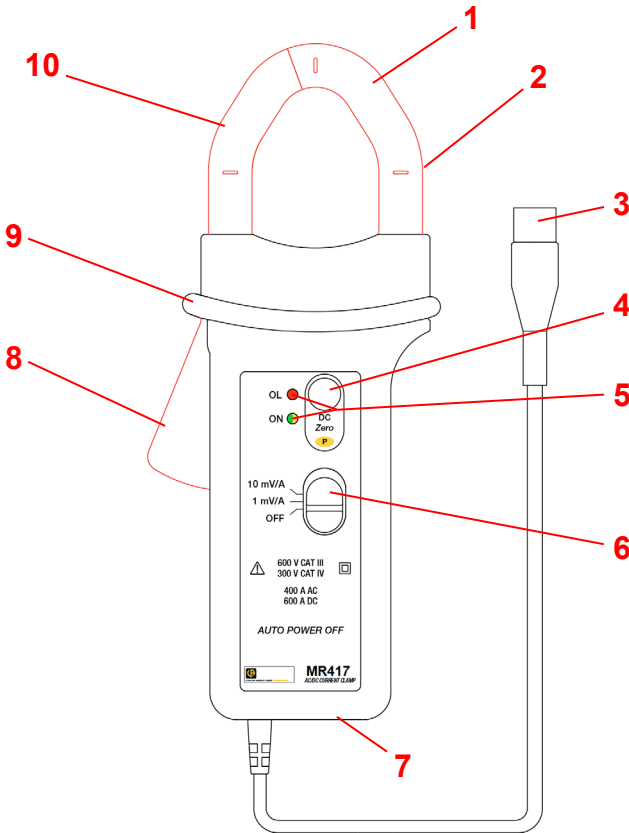

Figure 1 (MR417)
2. Clamp the jaws around the conductor to be measured. Use the centering marks on the jaws to position the clamp around the conductor. If the measurement is to be used in a power calculation, ensure the arrow on the clamp jaws (see Figures 1 and 2) points in the direction of the current flow: source \Rightarrow load.